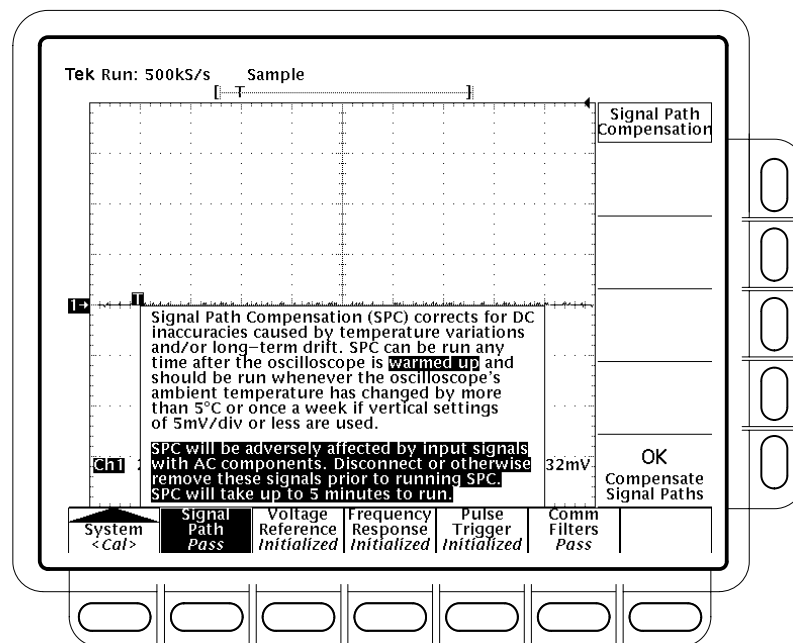

Figure 3–72: Performing a Signal Path Compensation
5. Verify the word *Pass* appears under **Signal Path** in the main menu. (See Figure 3–72.)